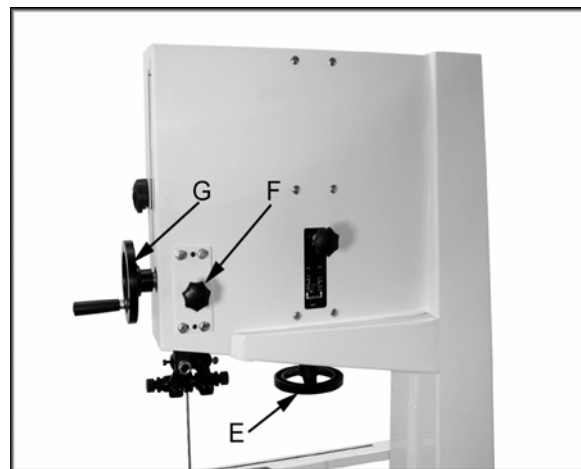

Figure 17
2. Lower the upper blade guide assembly about half way by loosening the lock knob (F, Fig. 17) and turning the hand wheel (G, Fig. 17).
5. Loosen blade tension by turning blade tension hand wheel (E, Fig. 17) clockwise until it stops.